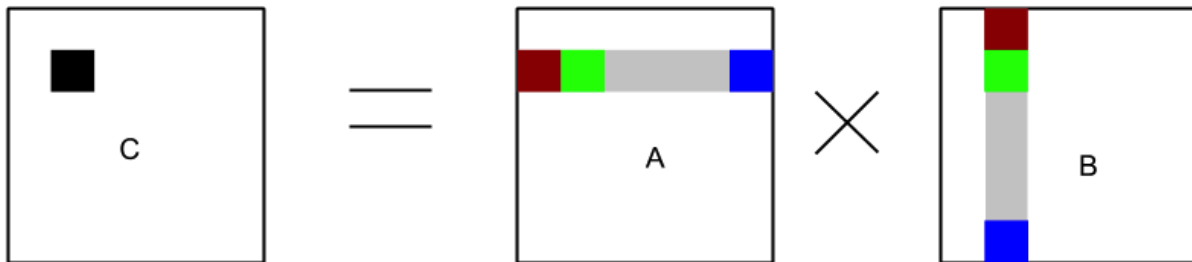

Figure 1 Cache Blocking and Shared Memory Loading
- In Figure 1, as it is shown, if we want to compute the black block of data in matrix C, we need to multiply the horizontal gray stripe in A with the vertical gray strip in B. During the computation, the red block in A needs to multiply red block in B and red block in A will only be used when red block in B is ready. Therefore, we load red blocks in A and B into the shared memory, compute their multiplication at once. Then, we load green blocks and so on, until the blue blocks. Finally, the results those blocks can be summed up as the black block in result matrix.